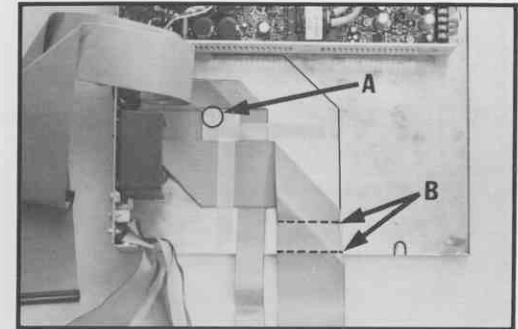

Figure 44 Disk Command Cable on Trace B
- 4.20 Identify the wide disk command cable. Position the cable along the line traced with Template B and tape it as shown in Figure 44. Be sure to leave 1/4" clearance around the card cage mounting hole.